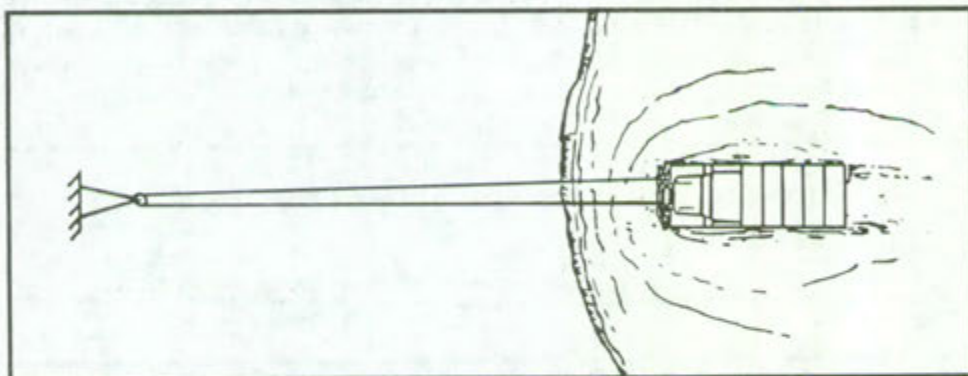

Figure 3. Self-wincing operation.
c. A winch-equipped mired vehicle can perform a self-recovery. The rigging is similar to that used for similar vehicle recovery except the snatch block is attached to a suitable anchor and the free end of the cable attached to one of the mired vehicle's front lifting shackles. A fixed block will gain a mechanical advantage on a self-wincing operation even though the sheave of the block is performing as a first-class lever because the source of effort (the winch) is part of the load; therefore, both the fall line and return line are attached to the load and supporting it. Since there are two lines supporting the load, a 2 to 1 mechanical advantage is obtained (figure 3).